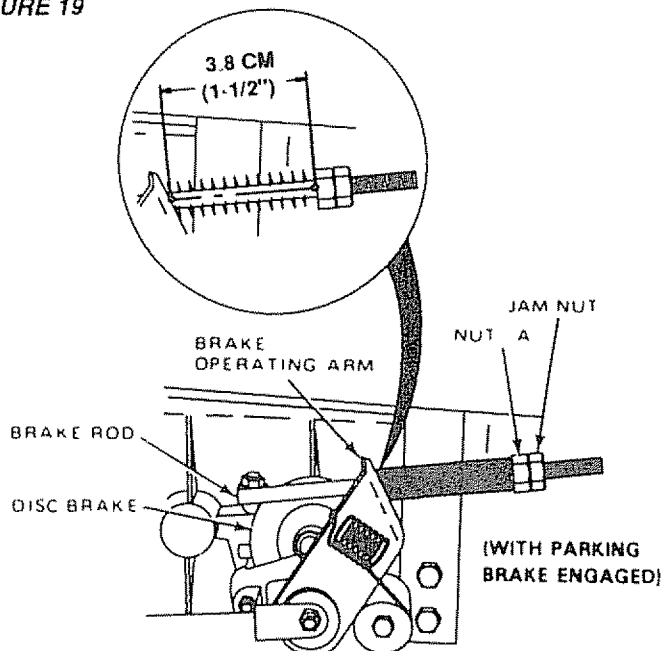

FIGURE 20
This Tractor is equipped with an adjustable brake system mounted on the right side of the transaxle (Fig. 20).
- If distance is other than 3.8 cm (1-1/2"), loosen jam nut (Fig. 20) and turn nut until distance becomes 3.8 cm (1-1/2"). Retighten jam nut against nut "A"